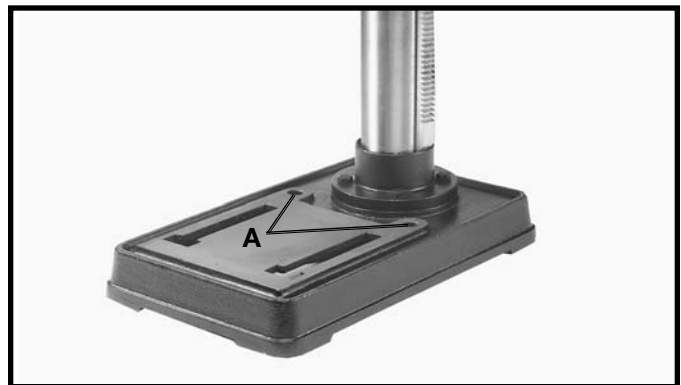

Fig. 36
If during operation there is any tendency for the drill press to tip over, slide or walk on the supporting surface, the drill press base must be secured to the supporting surface with 125mm (5") long carriage screws, flat washers, lock washers, and hex nuts through the two holes (A) Fig. 36, located in the drill press base.